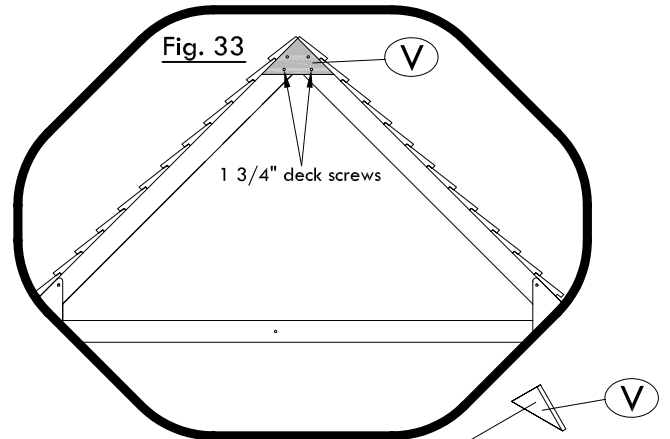

Fig. 33
Pivot both Roof Halves to center and fasten Mending Plate 'V' to Roof Trusses 'G' with (4) $1\frac{3}{4}$ " deck screws as shown. (see Fig. 33)